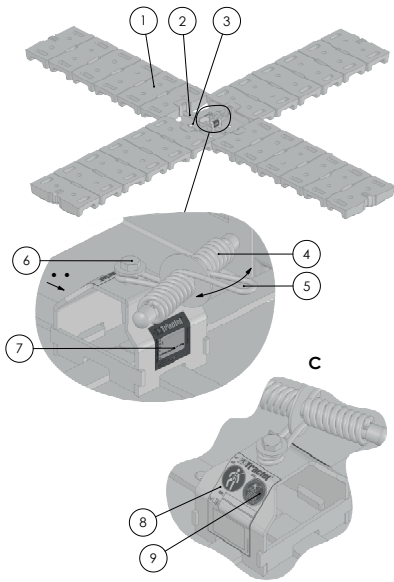

Fig. 1 / Abb. 1
- 24 concrete blocks of 25 kg each (fig. 1, rep. 1).
- 4 block carrying arms in galvanised steel (fig. 1, rep. 2).
- A central structure in galvanised steel (fig. 1, rep. 3).
- A freely rotating shock absorber fixed onto the central structure (fig. 1, rep. 4).
- Anchor point (fig. 1, rep. 5).
- Absorber rotation axis. (Fig. 1, rep. 6).
- Anchor point identification label (fig. 1, rep. 7).
- A label indicating the date of the next periodic examination (Fig. 1, rep. 9).
- An information plate (Fig. 1, rep. 8).